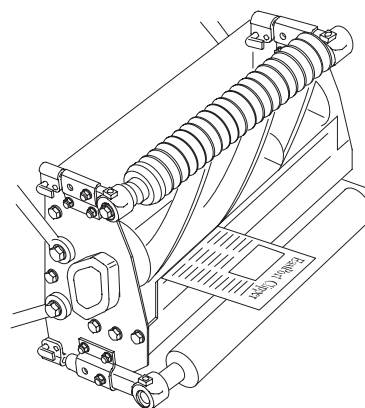

Figure 4
2. Set the cutting unit as shown in figure 4. Do not rest the cutting unit on the bedknife adjusting knob as this will affect the reel to bedknife clearance. Place a block of wood under the round cross tube to hold the adjustment knob above the surface.
4. Insert a long strip of dry newspaper between the reel and bedknife (Fig. 4) at either end of the bedknife, and rotate the reel by hand. The paper should be cleanly cut. Repeat this procedure at other end of the reel. If the paper does not cut cleanly, tighten the bedknife